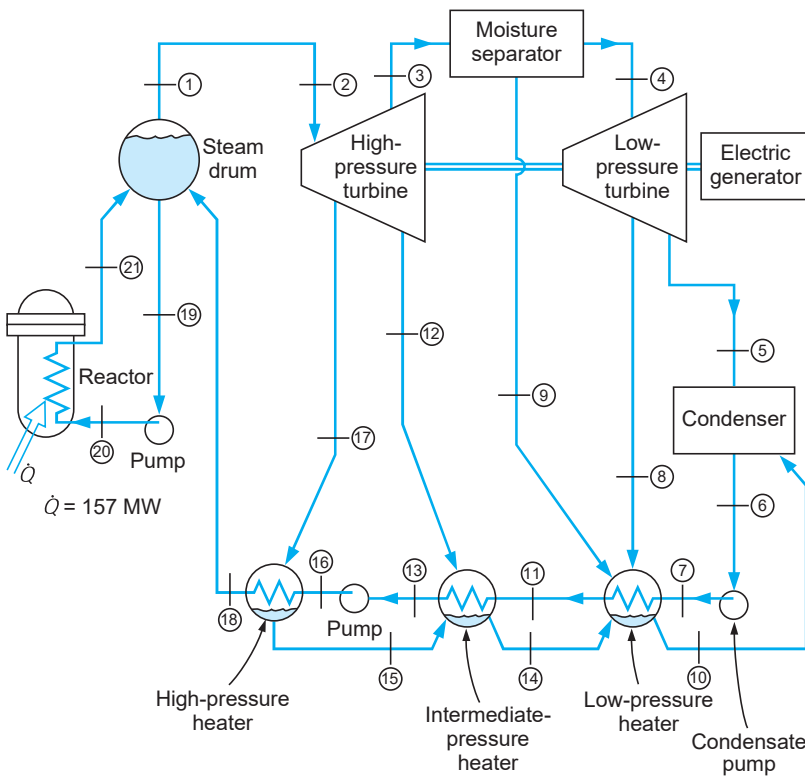

FIGURE P6.106
- 6.106** A somewhat simplified flow diagram for a nuclear power plant is given in Fig. P6.106. Mass flow rates and the various states in the cycle are shown in the accompanying table.